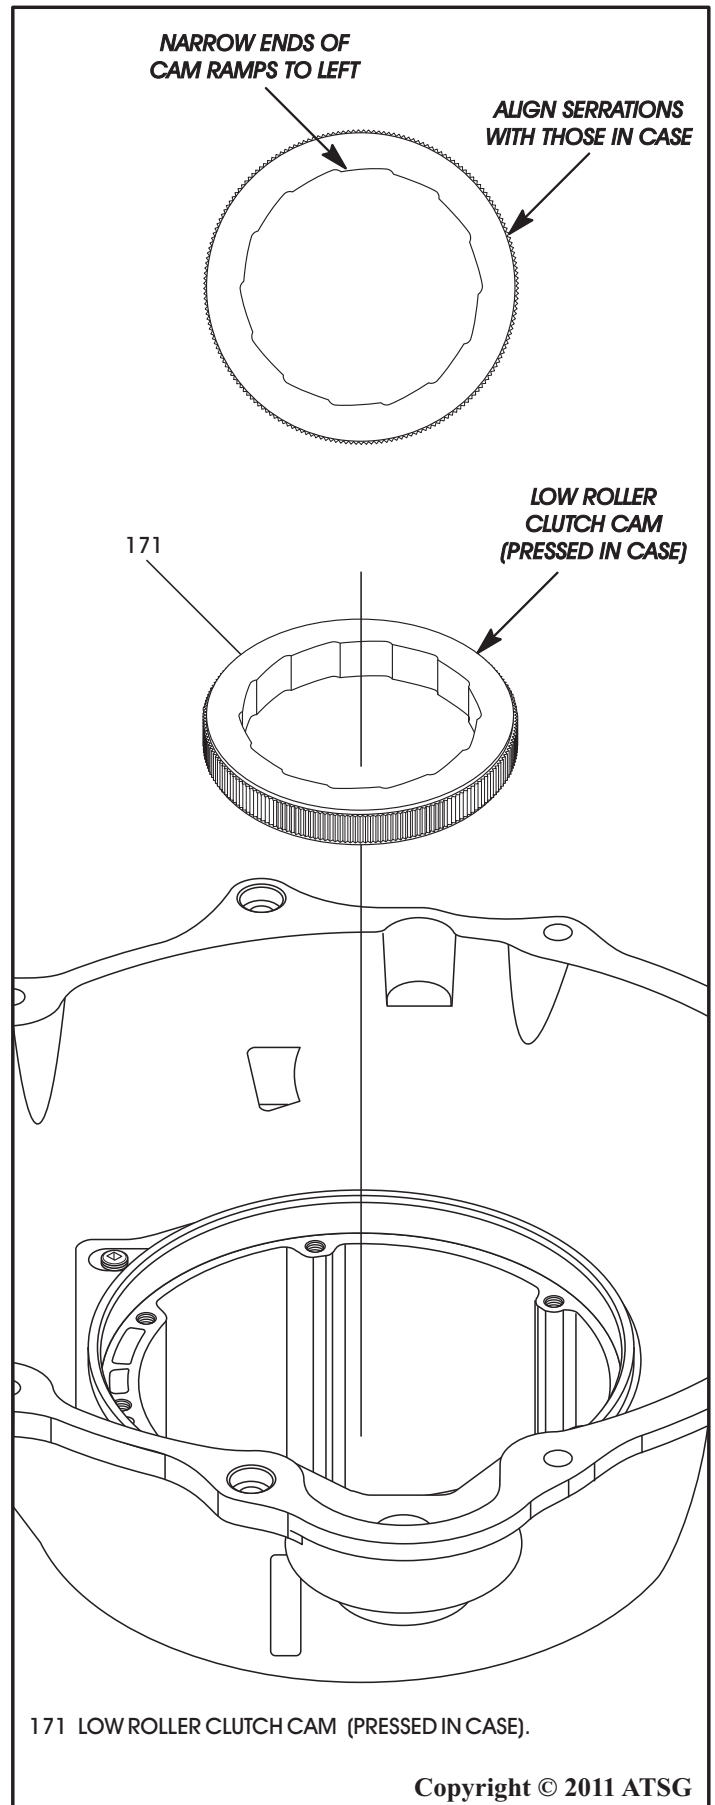

Figure 88
4. Align and start new clutch cam into the case, as shown in Figure 88.
**Note:** Be sure serrations on cam are aligned and narrow ends of cam ramps are to the left when viewed from front (See Figure 88).